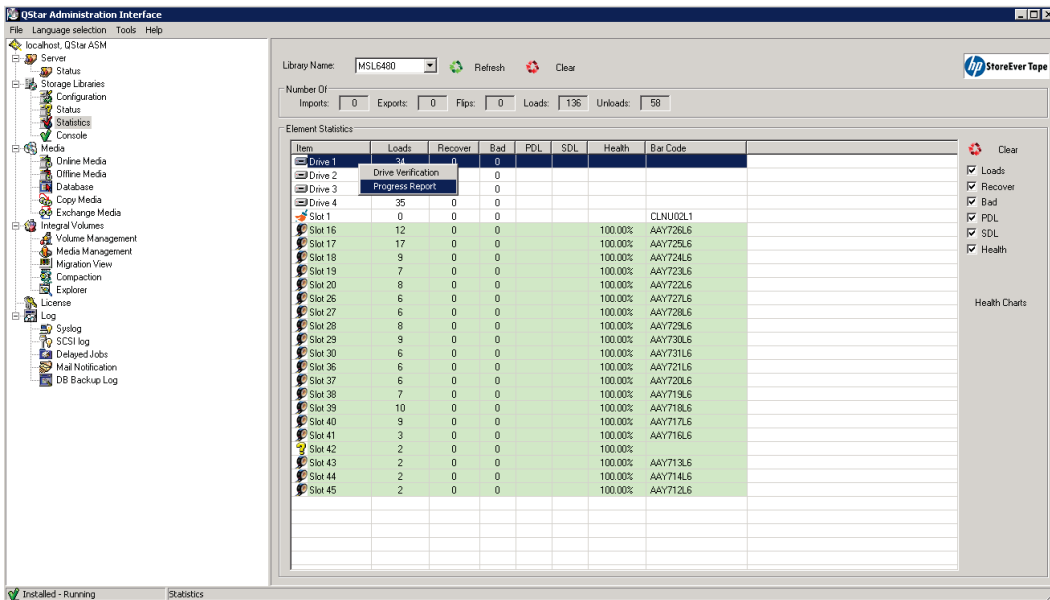
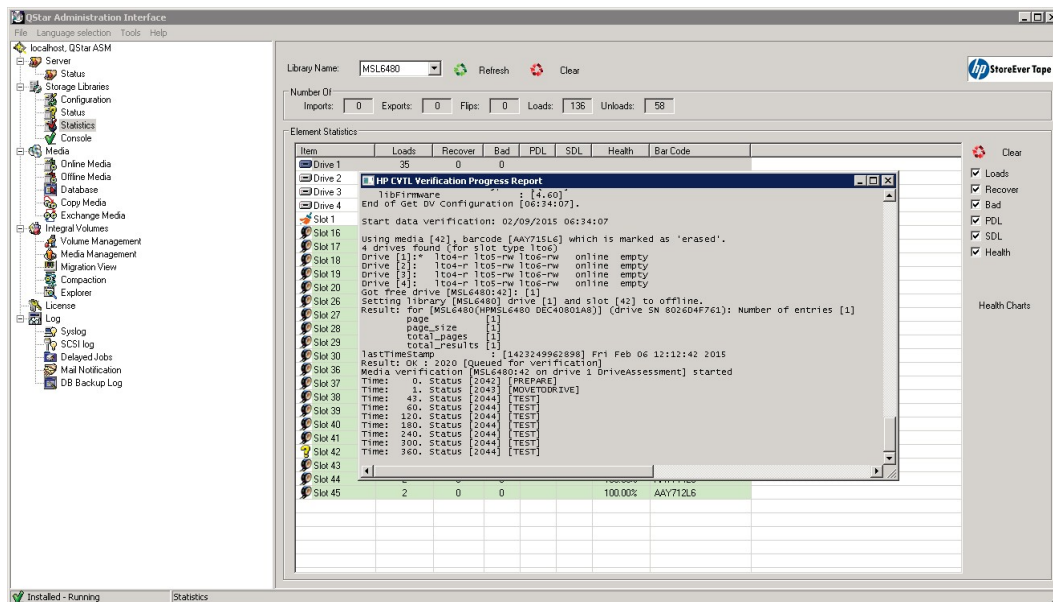

Figure 29. Selecting to view the progress report for a drive verification test
Figure 30. Viewing the HPE CVTL Verification Progress Report
3. Once the drive verification test has started and a job log file is created in the QStar log directory, a Progress Report menu item becomes enabled for this drive and you can view the progress of the operation as it runs. See **figure 29** and **figure 30** as examples.